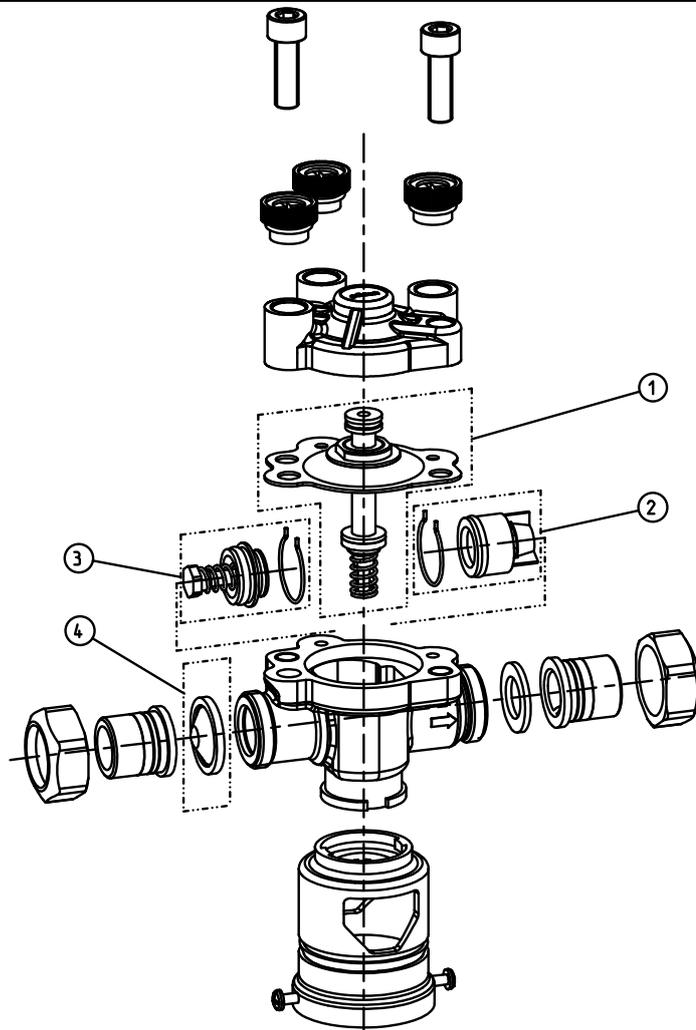

Fig. F-1: Spare parts for Euro system separator GENO-DK 2-Mini
- Make sure that the system separator's cap sieve is installed with its bulge directing opposite the flow direction (refer to fig. F-1).
- ① Gate valve
- ② Drinking water filter BOXER-KD with pressure reducer
- ③ Gate valve with draining
- ④ Euro system separator GENO-DK 2-Mini
- ⑤ Waste water connection
- ⑥ Gate valve